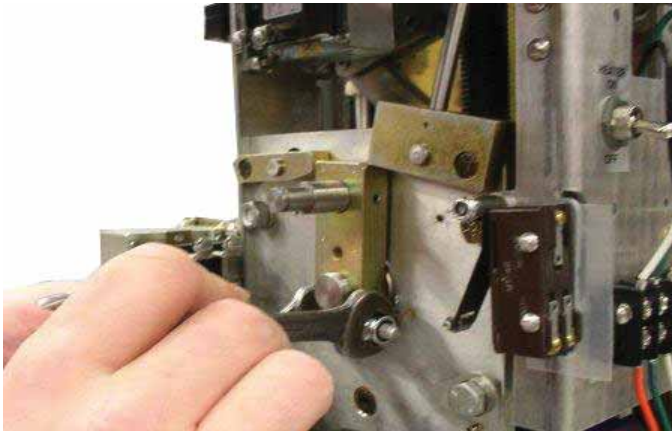

Figure 9.
- b. Using a 7/16" wrench, loosen clamping bolt and nut on the VR-68 crank lever. Refer to Figure 9.